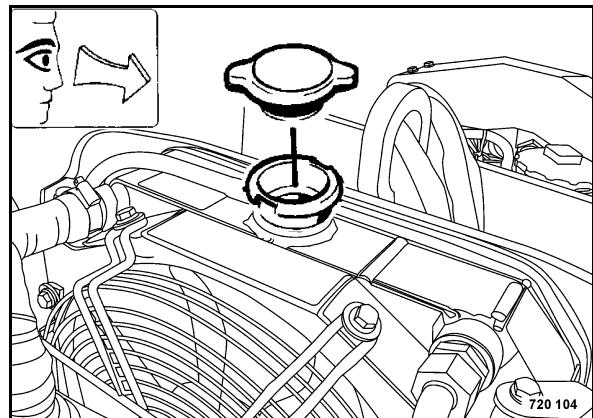

Fig. 129
- Fill in coolant until the level reaches the bottom edge of the radiator filler socket (Fig. 129).